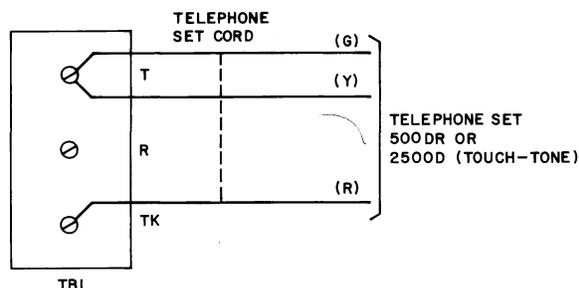

Fig. 7—Connection Arrangement for Telephone Set 500DR (Rotary Dial) or 2500D (TOUCH-TONE Dial)
- (1) Connect the green (G), yellow (Y), and red (R) leads of the telephone set cord to TB1 on the 32A1 data mounting in accordance with Fig. 7.